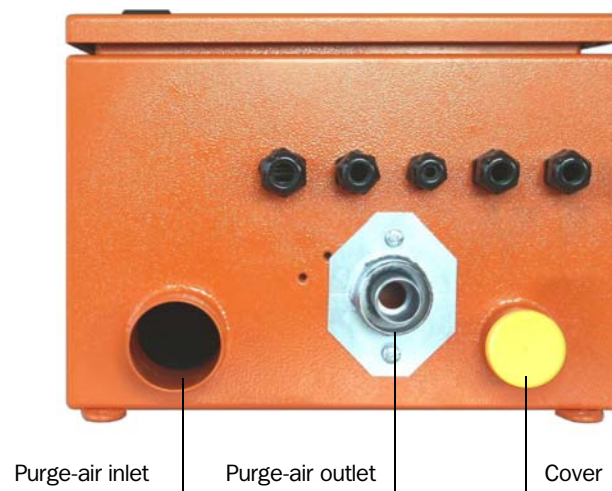

Fig. 3.12: Underside of the purge-air unit in connection box
- ▶ Connect the purge-air hose to the purge-air outlet (underside of the purge-air unit, see **Fig. 3.12**) and the connector at the dust protection outdoor and secure it with hose clamps. The purge-air outlet must be adjusted in the shown way (adjust if necessary).